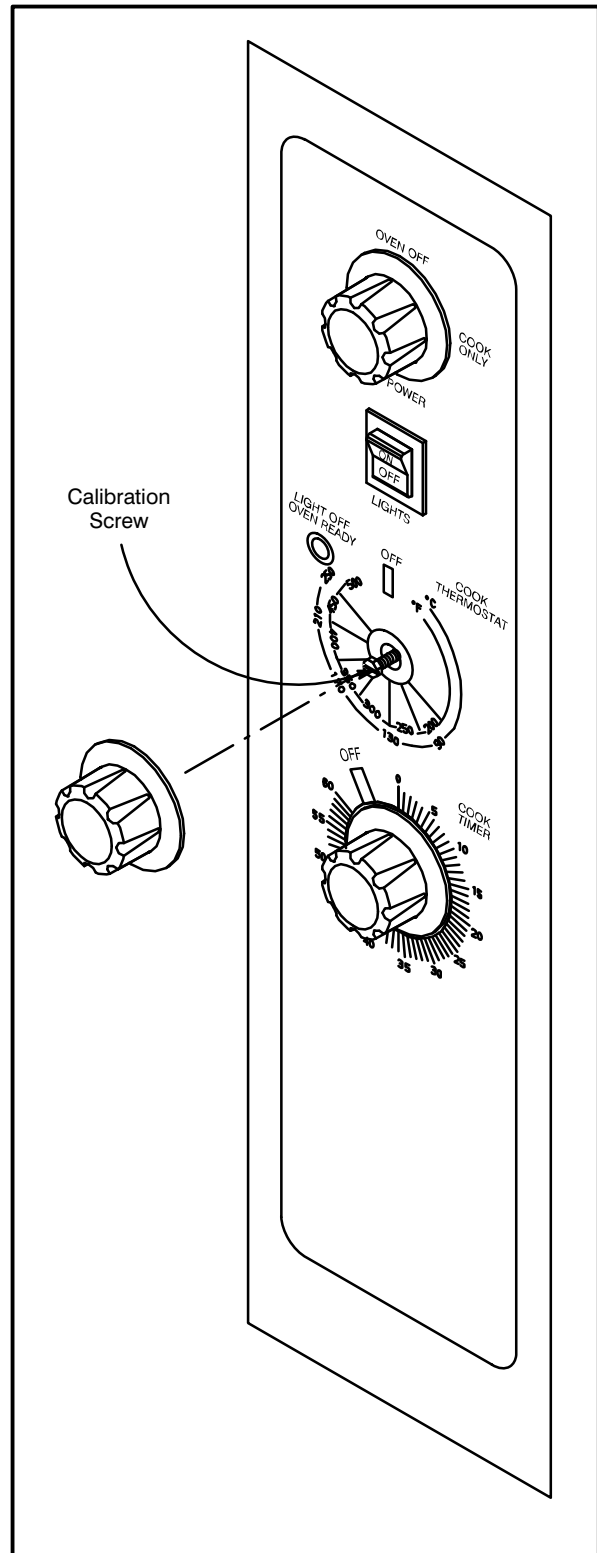

FIGURE 16
4. When the red indicator light on the control panel goes out, check the thermometer or pyrometer to determine oven temperature. If this reading is within 10°F (6°C) of the thermostat setting, do not change the thermostat. If this reading differs more than 10°F (6°C) from the thermostat setting recalibrate the thermostat as follows. See FIGURE 16 page 4-2.